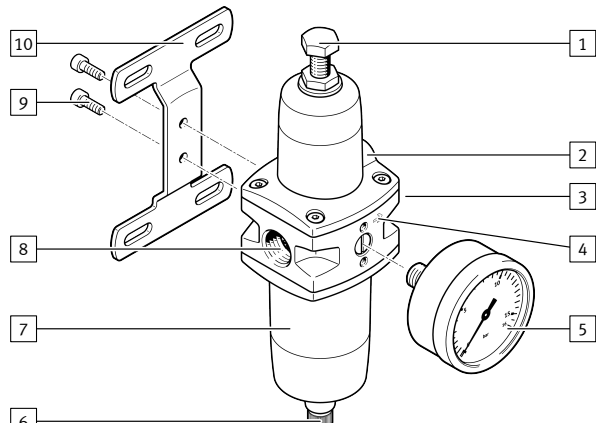
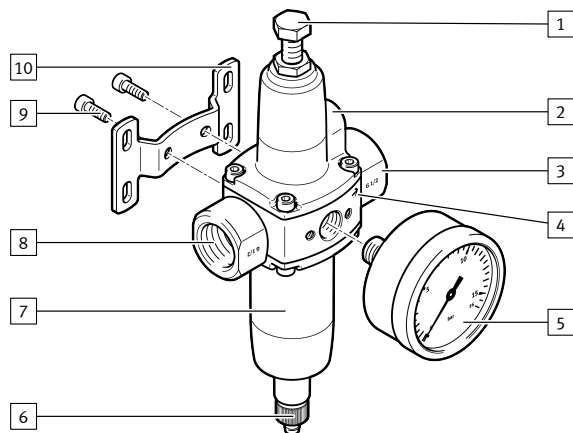

Fig. 1: Product design PCRP-64-...-M
Fig. 3: Product design PCRP-44-...-M
- Turn the drain screw [6] in $\rightarrow$ Fig. 1 and $\rightarrow$ Fig. 3 anticlockwise as seen from below to drain the condensate.